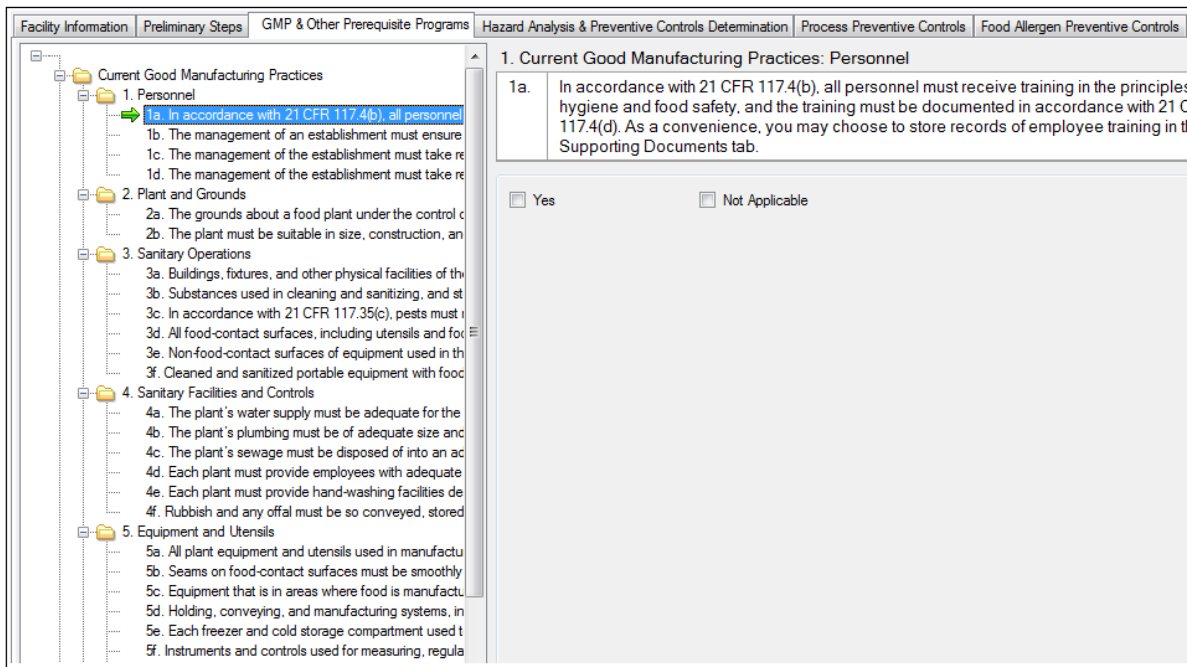

Figure 31: GMP & Other Prerequisite Programs Questions
- Edit** — To edit an added [or existing] additional prerequisite program (Figures 31 and 32), select the prerequisite program and then right click on the prerequisite program folder. Select "Edit Prerequisite Program", and update the name and/or Comment.